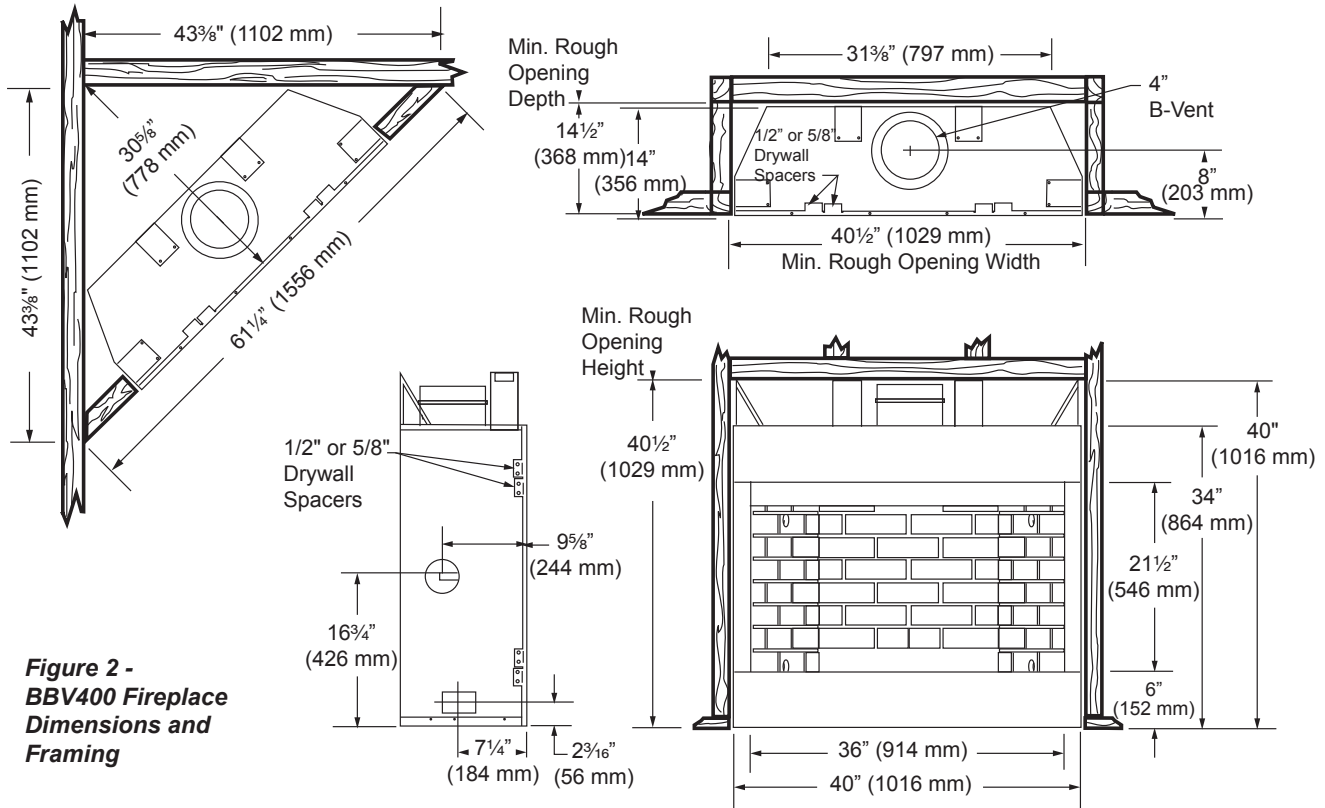

Figure 2 - BBV400 Fireplace Dimensions and Framing
Firebox framing can be built before or after the appliance is set in place. Construct firebox framing following *Figures 2 or 3* for your specific installation requirements. Refer to *Figures 2 & 3* for firebox dimensions. The framing headers may rest on the top of the firebox standoffs.
Chimney centerline dimensions are referenced on Pages 6 & 7, Figures 2 & 3.
- Locate chimney centerline dimension from a combustible back wall. *Figures 2 & 3*. Minimum firestop dimensions are found in the vent manufacturer's instructions. Clearances to combustibles may also be found on the sides of the flue sections.